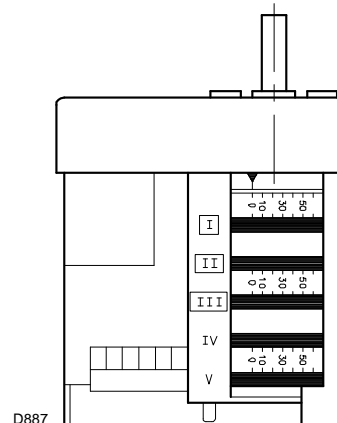

Fig. 26
The servomotor (Fig. 26) provides simultaneous adjustment of the air gate valve, by means of the variable profile cam and the pressure regulator.
- 5 s:** Servomotor starts: 130° rotation to right, until contact is made on cam I)(Fig. 26 at page 22).
- 69 s:** Servomotor rotates to left until contact is made on cam III)(Fig. 26 at page 22).
- The servomotor returns to the 0° angle limited by contact with cam II)(Fig. 26 at page 22).